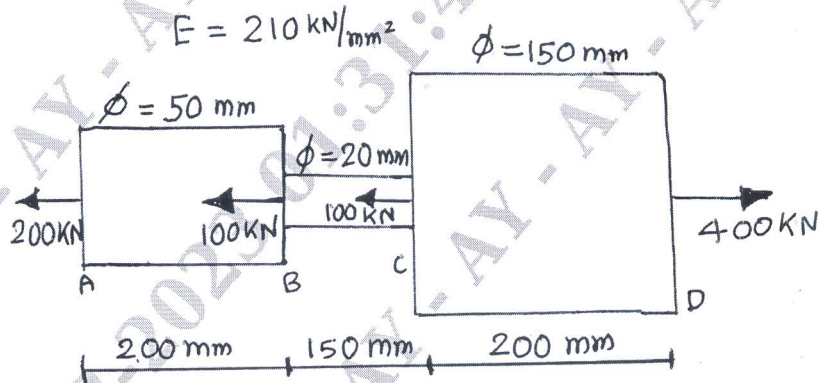

Fig.Q.2(a)
- a. Determine the net deformation of a stepped circular bar with different forces as shown in Fig.Q.2(a). Take Young's modulus $E = 210 \text{ kN/mm}^2$.